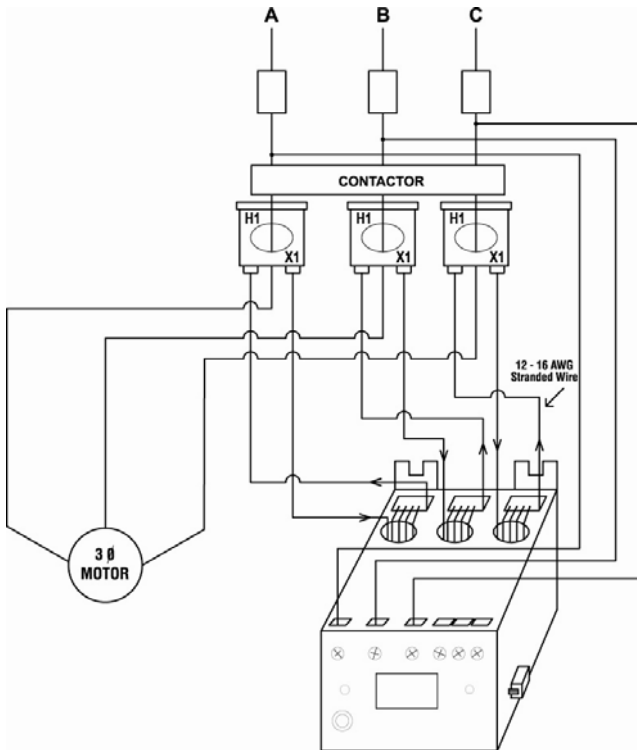

Figure 3: Typical Wiring Using External CTs¹
- c) For amperages greater than 90 amps, external CTs (current transformers) are required. SymCom recommends using CTs with terminal connections for easier installation. All CT secondaries must make five passes through the round holes on the MotorSaver® Plus. See Figure 3 for a typical wiring diagram using external CTs.